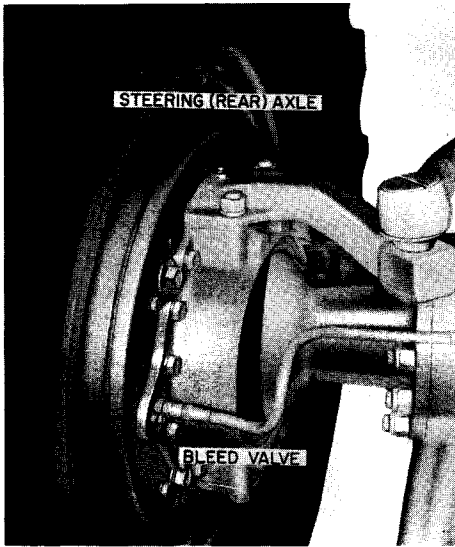

Figure 90
1. Loosen the bleeder valve on the wheel cylinder. Have someone depress the brake pedal while you observe flow of brake fluid from bleed valve. When air bubbles cease to appear, close the bleed valve, Figures 90 and 91.